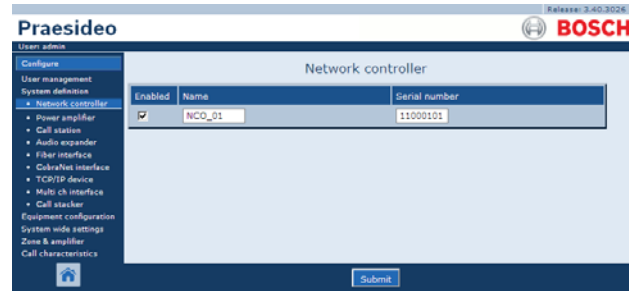

figure 42.3: Register network controller, step 1
- Go to *Configure > System definition > Network controller*. A screen similar to the one in figure 42.3 appears in the main frame of the web interface.